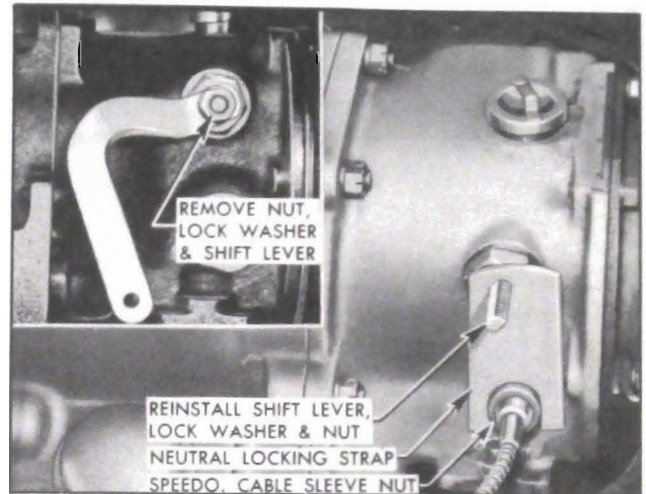

Figure 4-40—Installation of Neutral Locking Strap
2. Install neutral locking strap over cross shaft, with U-slot of strap straddling the speedometer cable sleeve nut. See figure 4-40. Hold strap in place by reinstalling shift lever.